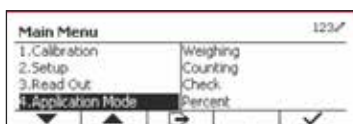

Figure 72
1. Press the  button to enter Main Menu. With the softkey corresponding to the ∇ icon, go down list and highlight Application Mode. (See Figure 72)
2. Enter this submenu by pressing the button corresponding to the \checkmark icon. (See Figure 72)